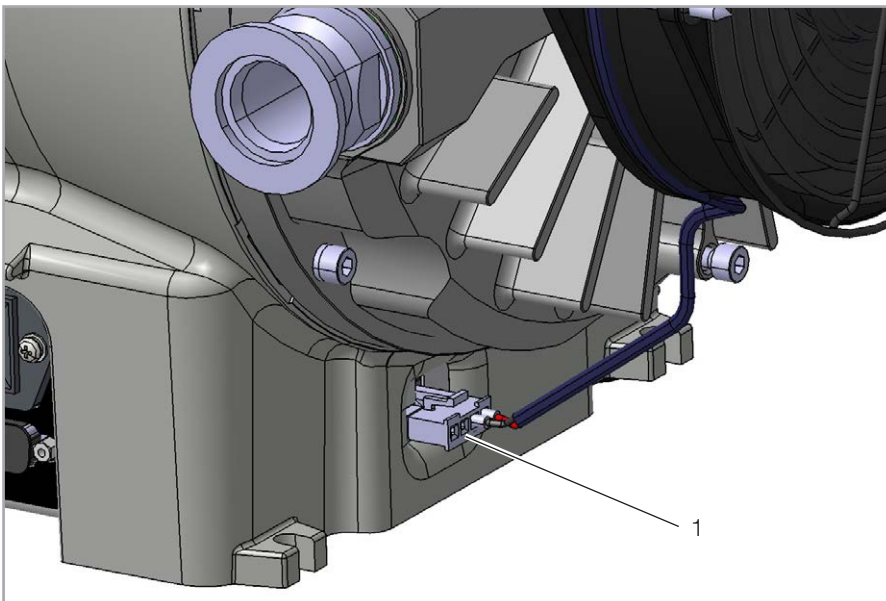

Figure 2 - Motor fan lead connector
3. Disconnect the motor fan lead from the controller (figure 2, item 1).
11. Connect the motor fan lead into the mating connector at the controller (figure 2, item 1).